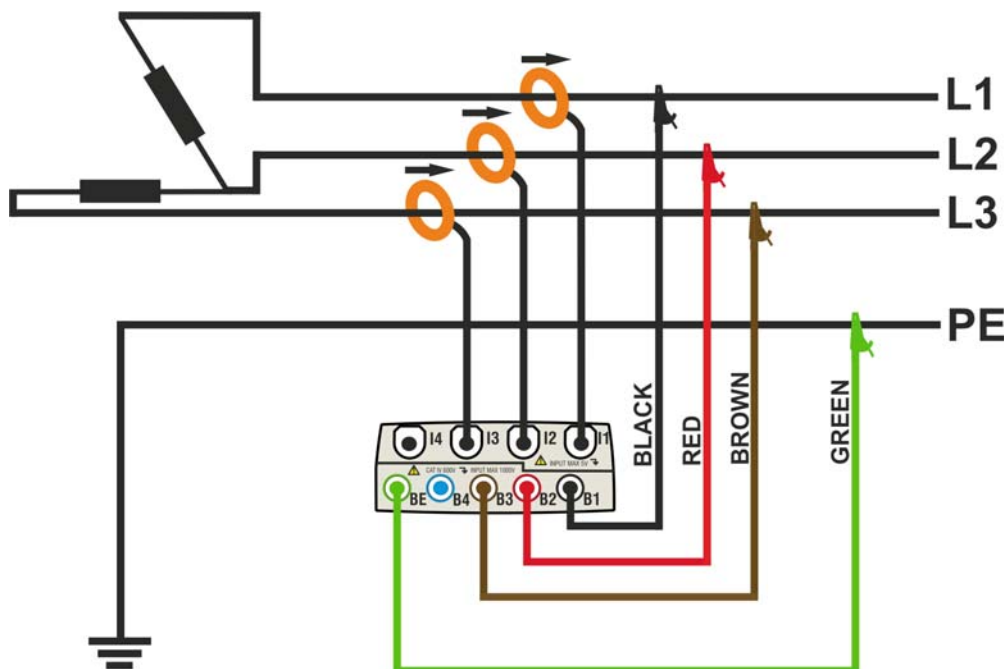

Fig. 124: Meter connection in a three phase 3-wire 3P OD system
2. Connect voltage test leads on Phases L1, L2, L3 and PE cables considering the colours as shown in Fig. 124. **Verify the result “123” at display relative to a correct phase sequence indication** (see § 5.2.1) and perform the corrections if necessary.
3. Connect the transducer current clamps on Phase L1, L2, L3 cables as shown in Fig. 124 respecting the clamp's arrow direction indicating the current standard sequence from generator to load. **On Real Time Values' section screens (selecting a 3 wire system preliminarily) always verify the positive value of Active Power and the power factor relative to load which should be normally inductive** before starting a recording. Reverse the clamp by 180 degrees on cables in case of negative readings.